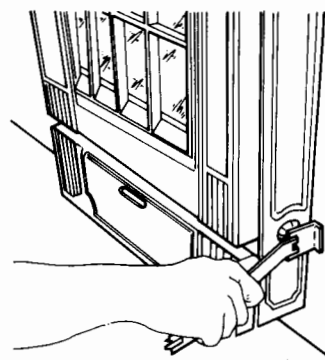

FIG. 8 RIDDLING
- Insert the chimney sweeping brush through the flue pipe in the top of the firebox and then push up into the main flue. See Fig. 8.